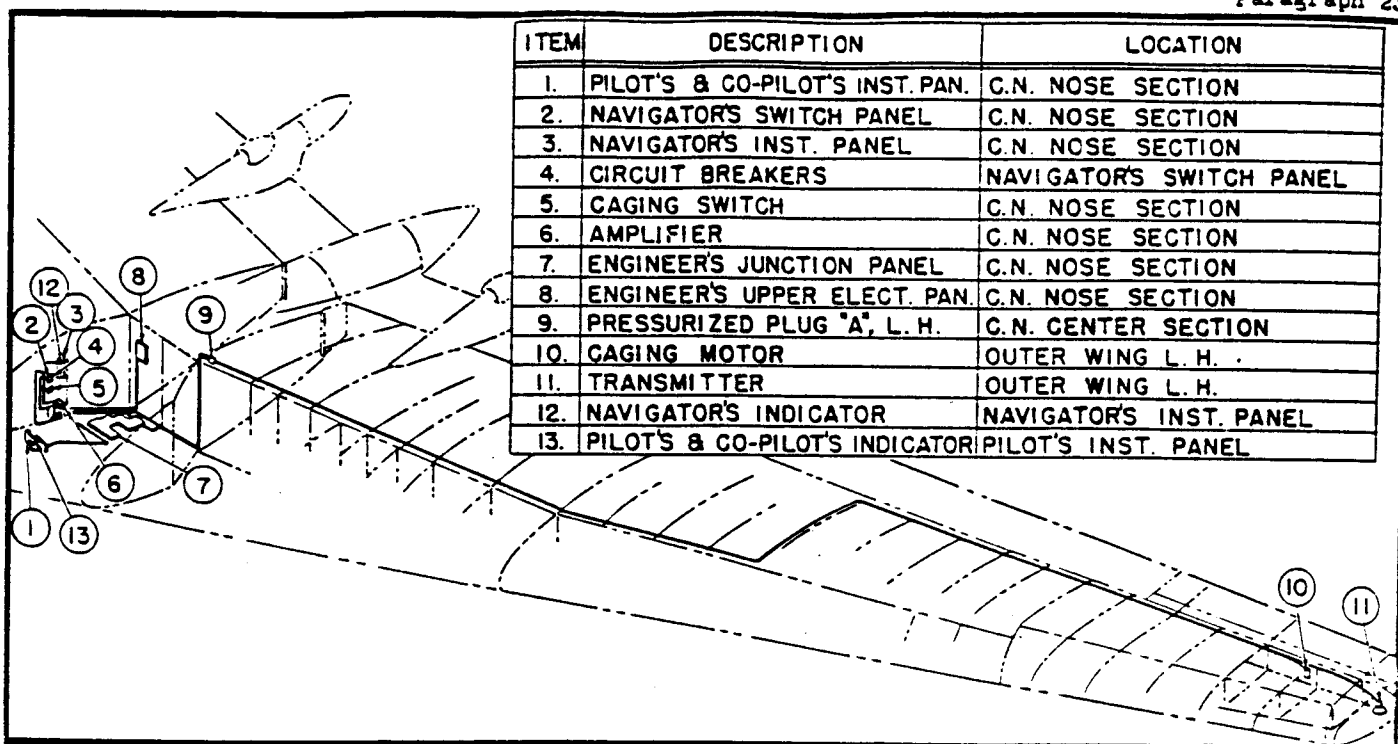

Figure 6. Gyro Compass Electrical Circuit
1. GYRO COMPASS MASTER INDICATOR AN5752-1.- The indicator operates on the 115 volt a.c. and is actuated by the gyro compass transmitter in the left wing. (See figure 6.) The gyro compass caging switch box is mounted on the bulkhead at table top level below the left lower corner